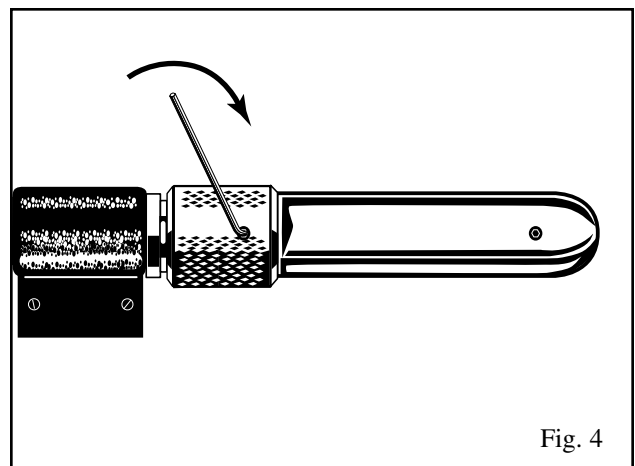

Fig. 4
4. Carefully retighten aft set screw on anvil assembly (Fig. 4).